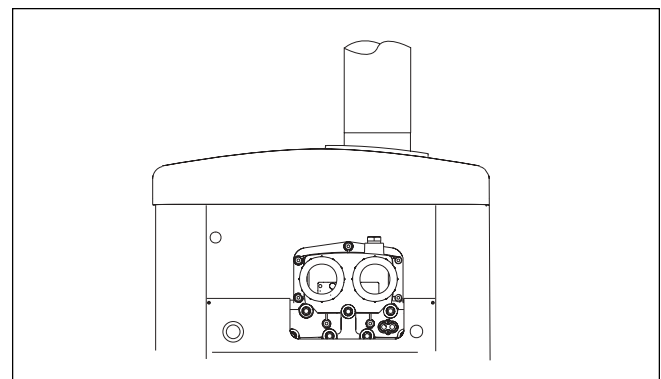

Figure 6. Vent Pipe Installation.
3. Install the vent pipe on the indoor vent collar. The collar will accommodate vent piping of nominal 7" or 9" diameter (see Table 3), depending upon the model of your heater (See Figure 6). See vent installation section for important information on selecting proper pipe size.